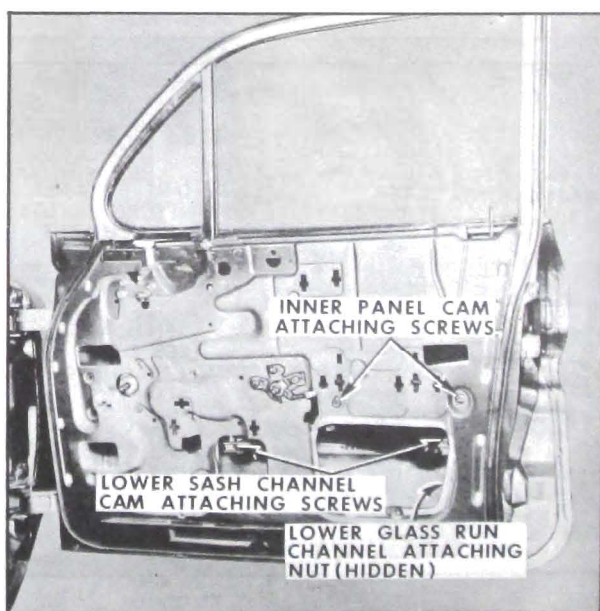

Figure 2-22—Front Door Regulator Attachment
3. Lower door window. Remove ventilator to door outer panel return flange attaching screw (see Figure 2-22).
4. Remove ventilator division channel lower adjusting stud and nut (see Figure 2-22).
5. Remove ventilator upper attaching screws along window frame (see Figure 2-22).
4. Remove screws securing window lower sash channel cam to window assembly and carefully disengage cam from window lower sash channel (see Figure 2-22).
1. To correct a condition where glass is "cocked" in glass run channels, loosen inner panel cam attaching screws, adjust cam up or down as required and tighten screws (see Figure 2-22).
3. To adjust lower portion of window glass run channel in or out for proper alignment with door window, raise door window. From inside door, loosen glass run channel lower attaching nut or screw, adjust channel as required and tighten nut or screw (see Figure 2-22).